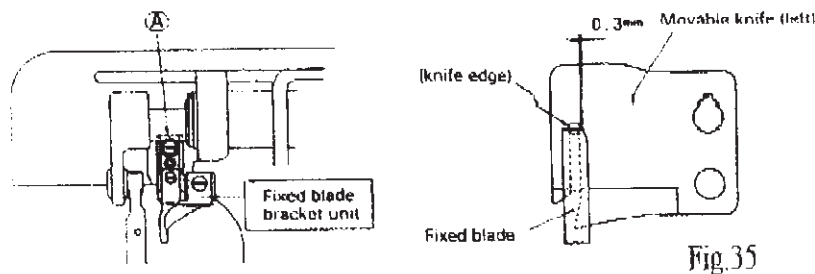

Fig.35
(1) The standard position is illustrated as Fig.35.
(2) The distance between the fixed blade and movable knife is 0.3mm.
(3) The correct position of fixed blade bracket or fixed blade can be adjusted according to Fig.35.